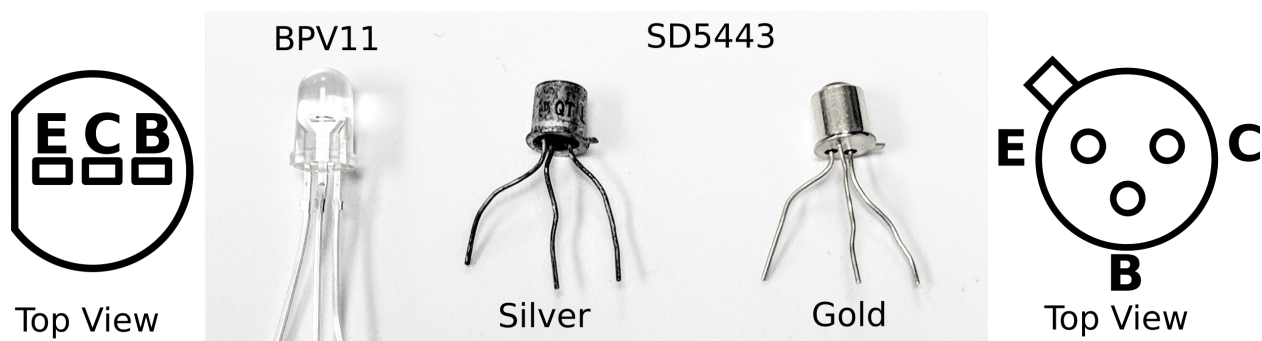

Figure 3: There are two phototransistor types available with different pinouts.
- See figure 3 on page 3 for the phototransistor pinouts